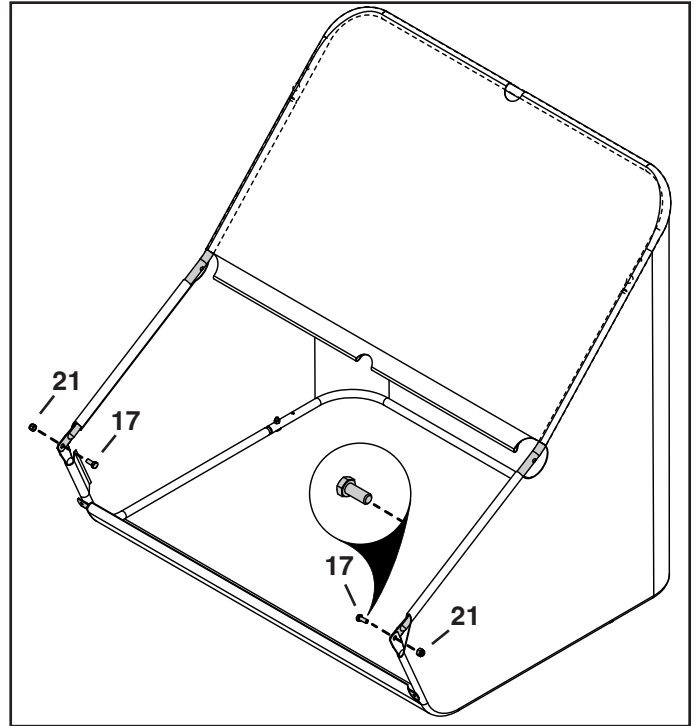

FIGURE 13
20. Secure the top and bottom hopper tubes together using two 5/16" x 3/4" hex bolts (17) on inside and two 5/16" nylock nuts (21) outside. See figure 13.